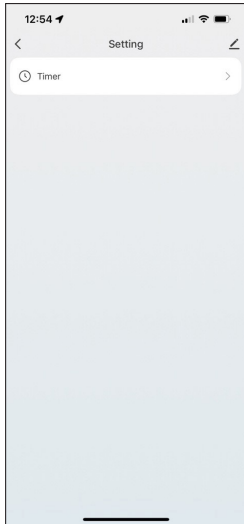

Fig. 3
1. Tap the Settings button , then select the Timer option (see Fig. 3).